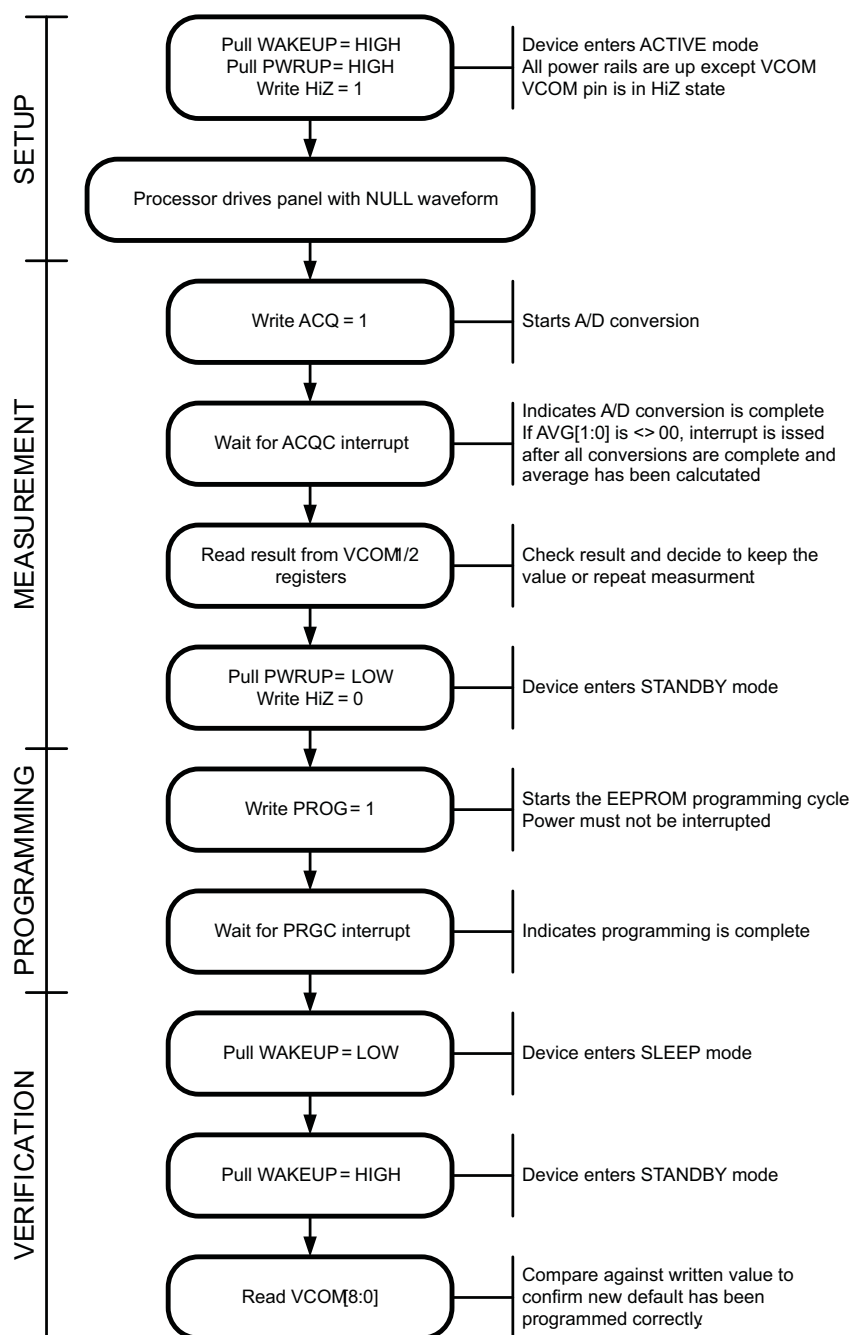

Figure 22. VCOM Calibration Flow
In STANDBY all internal support circuitry is powered up and the device is ready to accept commands through the I²C interface but none of the power rails are enabled. The device enters STANDBY mode when the WAKEUP pin is pulled high and either the PWRUP pin is pulled low or the STANDBY bit is set. The device also enters STANDBY mode if input undervoltage lockout (UVLO), positive boost undervoltage (VB_UV), or inverting buck-boost undervoltage (VN_UV) is detected, thermal shutdown occurs, or the PROG bit is set (see Figure 22)
WAKEUP pin is high and STANDBY bit is set or PWRUP pin is pulled low (falling edge). Rails are shut down in the order defined by DWNSEQx registers. Device also enters STANDBY in the event of thermal shutdown (TSD), undervoltage lockout (UVLO), positive boost or inverting buck-boost undervoltage (UV), VCOM fault (VCOMF), or when the PROG bit is set (see Figure 22).